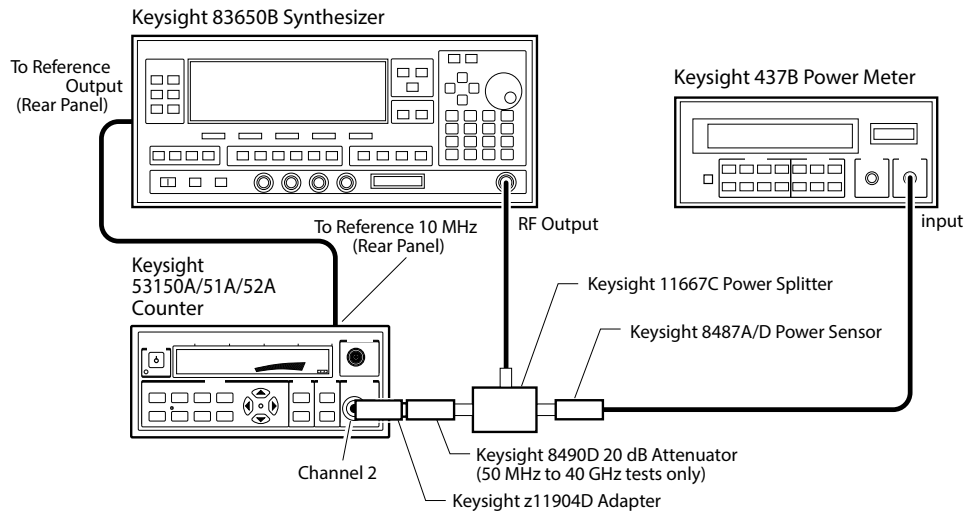

Figure 1-5 50 MHz to 20 GHz Frequency Sensitivity Test Setup
- 1 Connect the Keysight 11904D 2.92 mm (m) to 2.4 mm (f) Adapter to the Counter's **CHANNEL 2** input connector (refer to Figure 1-5 for steps 1 through 4).
- 2 Connect the Keysight 8490D Attenuator to the Keysight 11904D Adapter, as shown in Figure 1-5 (the other end of the Attenuator should remain connected to the Keysight 11667C Power Splitter).